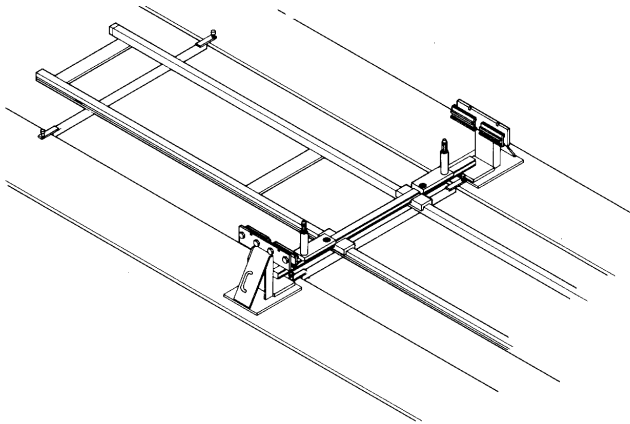

Figure 22
7. Using a centerline bar (48 inch), set two vertical scale holders at a centerline of 500mm. Install a 150-260mm vertical scale, fitted with a 'C' cone, in each of the vertical scale holders. Set both vertical scales at 176mm. Place centerline bar as close to the No. 2 ladder support bar as possible, leaving enough room to adjust the bar. (See Figure 22 on Page 10.)